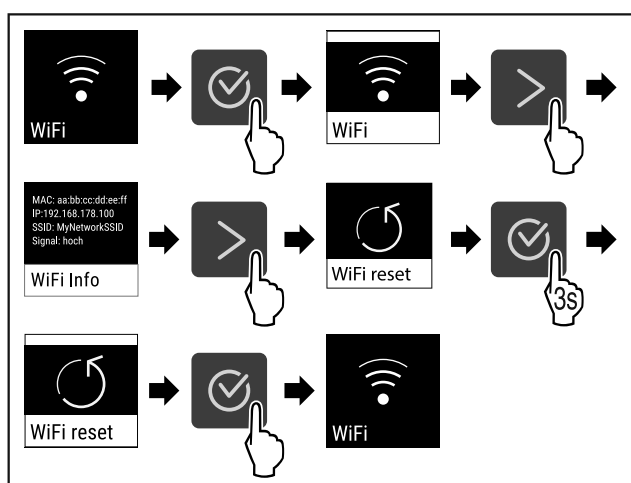

Fig. 87
- ▶ Complete the steps (see Fig. 87).